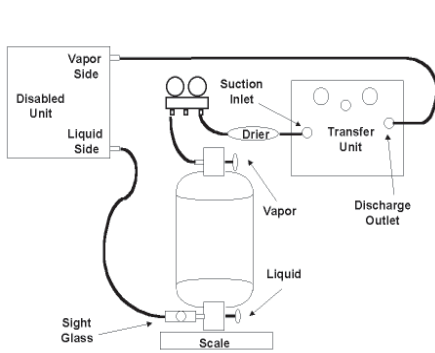

Figure 2: Liquid Recovery
- If performing liquid recovery, arrange hoses as indicated in **Fig. 2**.